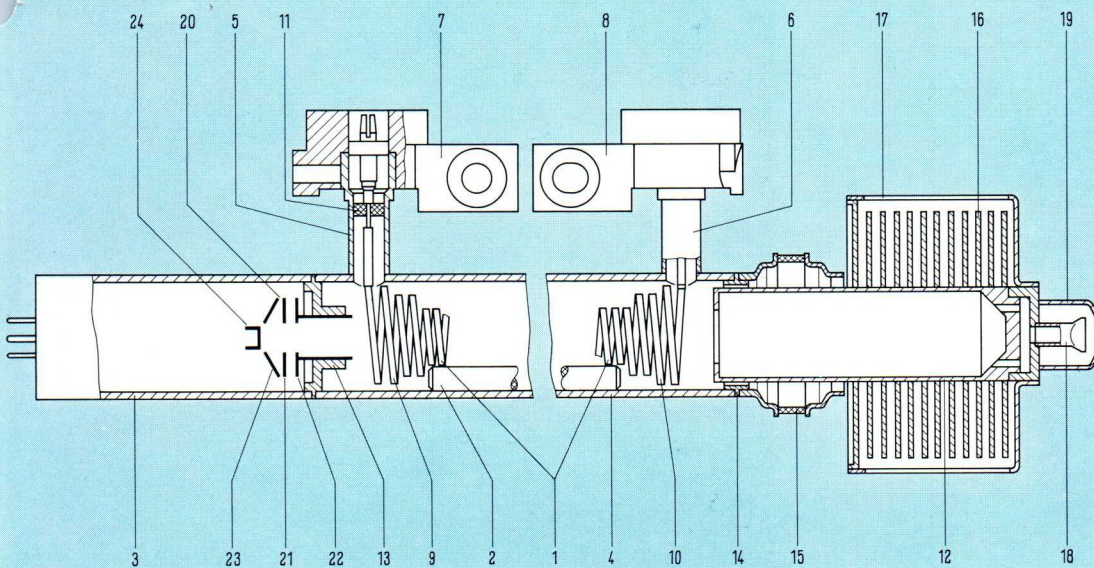

Fig. 1
The YH 1020 is of metal-ceramic design (Fig. 1). The helix (1) is centered with the aid of three insulating rods (2) in a metal tube (4). Coaxial lines (5 and 6) are used for coupling the r-f power in and out. The support flanges (7 and 8) hold the tube in the magnet system. The main helix is terminated at either end in a transformation helix (9 and 10) which matches its characteristic impedance to that of the coaxial lines. The vswr in the frequency range 470 to 960 Mc has been lowered to less than 1.85 by means of this transformation. Fig. 2 shows the locus curve of the r-f input and output impedance. For r-f decoupling of the input and